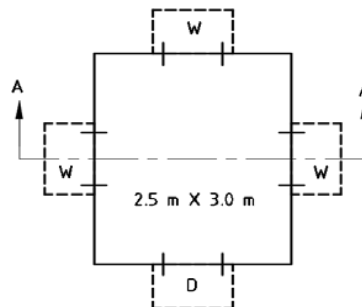

Fig. 8.1
1. Draw the plan, elevation, and sectional side view A-A, of a police outpost whose outline plan is shown in Fig. 8.1 (150 min /10 marks /level 1)